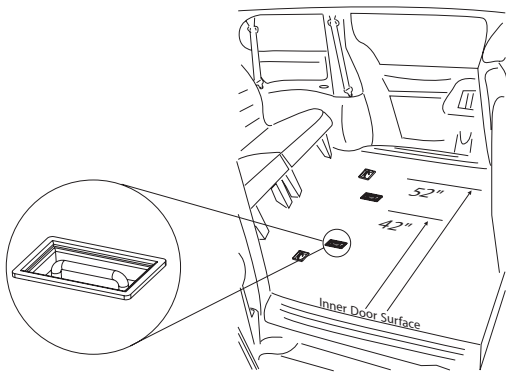

Figure 4-38
3. Examine floor area for remaining seat attachment points that are recessed into the floor. *See Figure 4-38.*